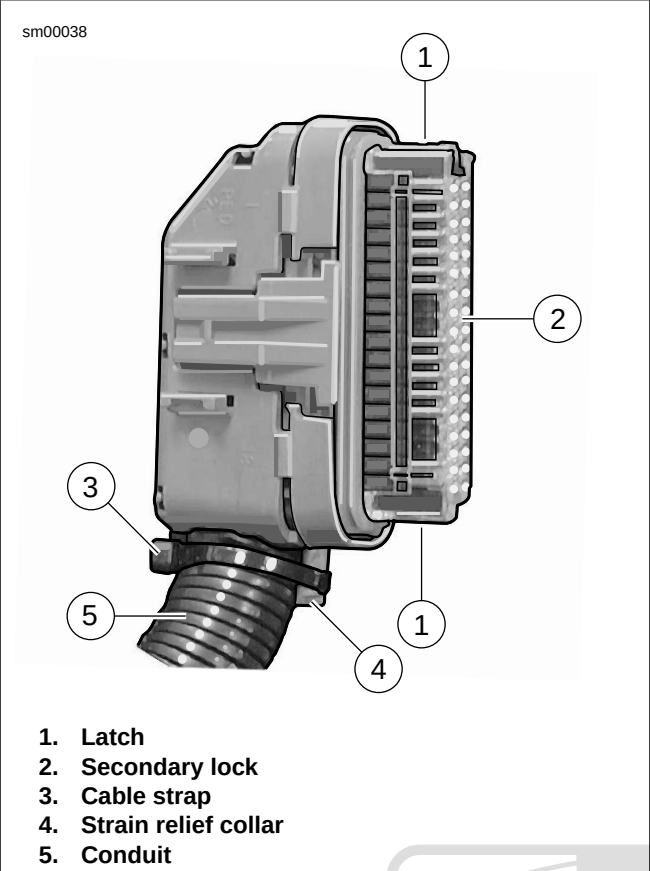
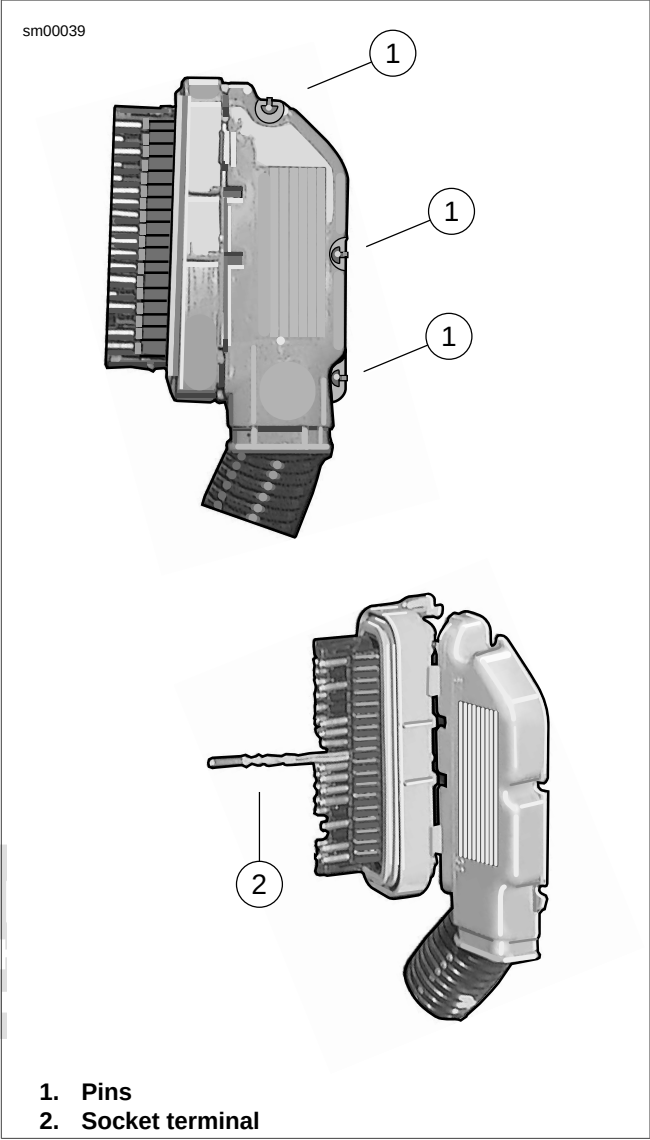

Figure A-45. Packard 100W Connector
Figure A-46. Packard 100W Connector: Separate Halves of Socket Housing
1. See Figure A-45. Gently press latch (1) on each side of the clear plastic secondary lock (2) and remove. For best results, release one side at a time.
2. Carefully cut cable strap (3) to free strain relief collar (4) from conduit (5).
3. See Figure A-46. Using a thin blade, gently pry at seam at back of socket housing to release three plastic pins (1) from slots in housing. Separate and spread halves of socket housing.